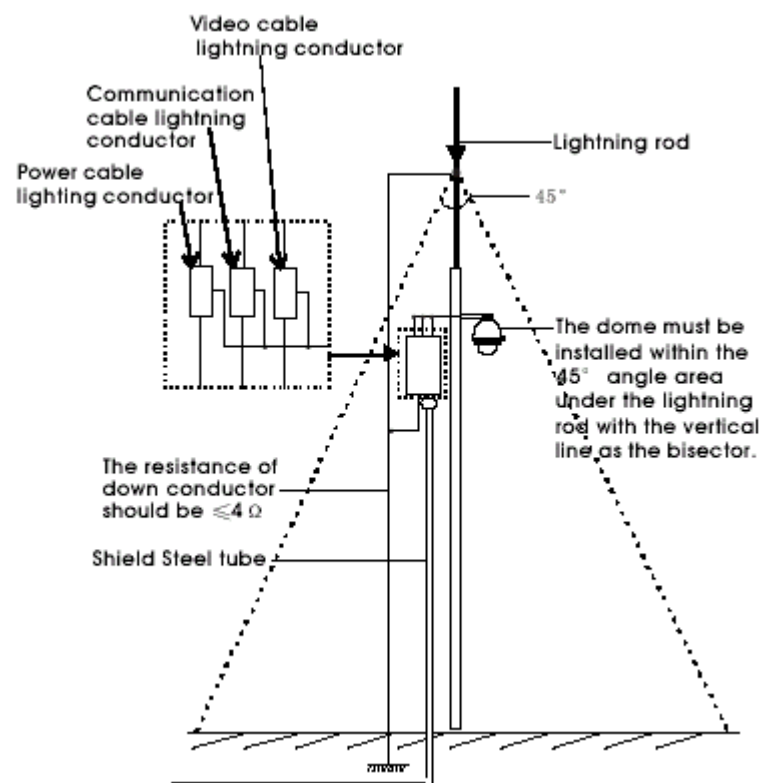

Figure 36
- | The system must be grounded with equal potentials. The earth ground connection must satisfy anti-interference and electrical safety requirements and must not short circuit the high voltage electricity network. When the system is grounded separately, the resistance of the down conductor should be  $\leq 4 \Omega$  and the sectional size of the down conductor should be  $\leq 25\text{mm}^2$  (refer to Fig 36).